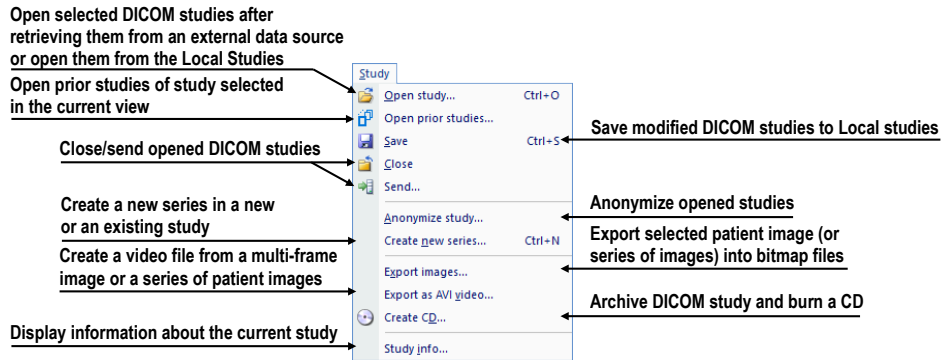

Figure 41 – Study menu
- **Study** – patient study operations containing the functions for opening/closing/saving studies, anonymizing and burning studies onto a CD and exporting images (see Figure 41).